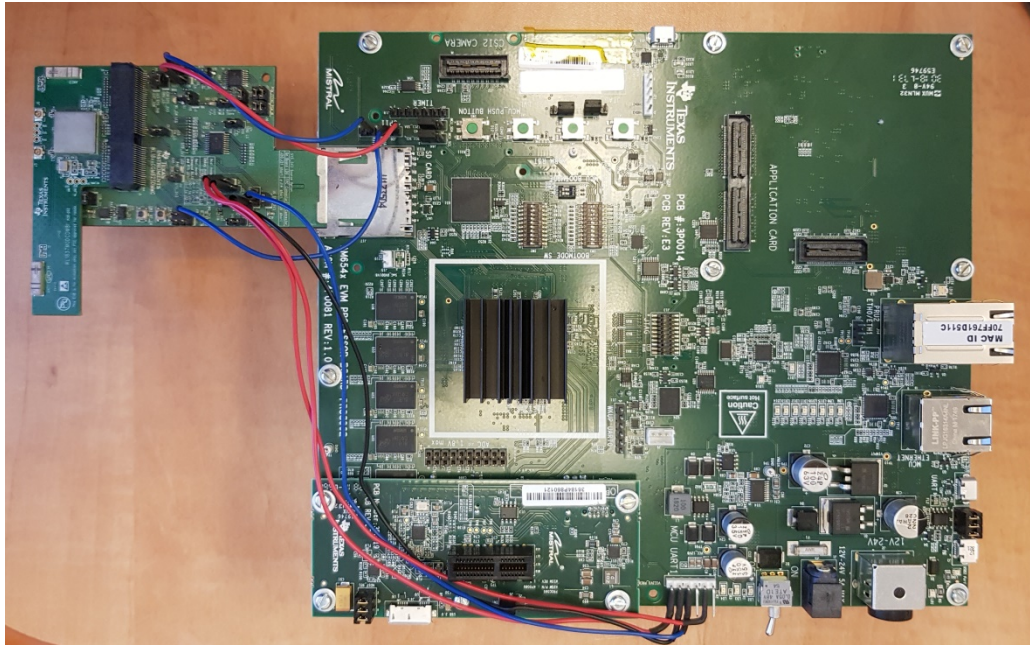

Figure 5. Connect the EVM
3. Connect the AM65x EVM with the WL18xx module mounted into the SD card slot, as shown in Figure 5.